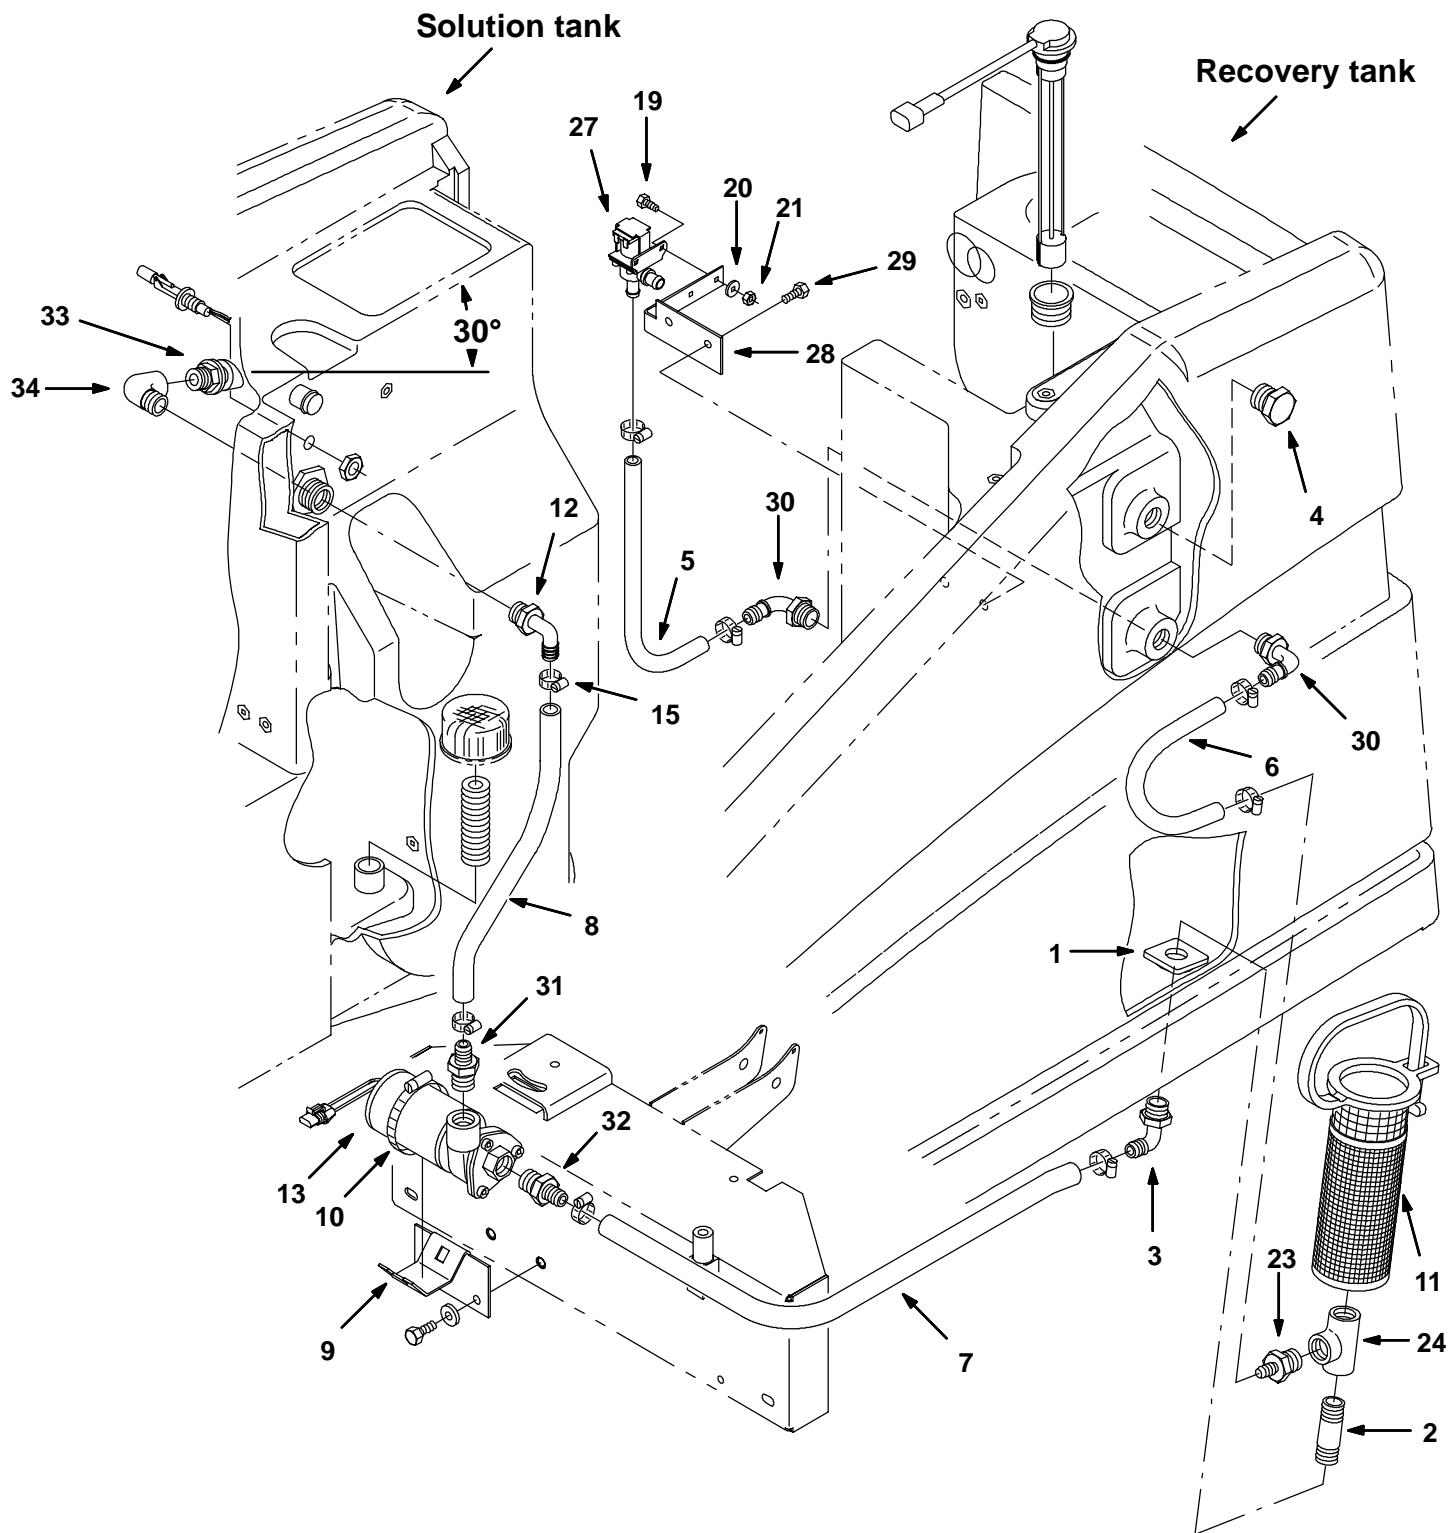

FIG. 7 - ES Pump/Airflow Valve Assembly (new location)
8. Install the airflow solenoid valve (27) onto the new mount bracket (28). Use the hex screws (19), washers (20), and nuts (21). Tighten to 7.6 - 9.9 Nm (5.6 - 7.3 in lb). Water suction end will point down and the air suction end will point to the left side of the machine. (Refer to FIG. 7)
9. Mount the airflow valve and bracket to the side of the recovery tank using the two hex screws (29). Tighten to 7.6 - 9.9 Nm (5.6 - 7.3 in lb). (Refer to FIG. 7)
(Refer to FIG. 7)
12. Install a 90° fitting (3) in the new bulkhead fitting (1) on the **outside** of the recovery tank.
Point the 90° fitting (4) toward the front of the machine. (Refer to FIG. 7)
13. Install the new tee (24) onto the new nipple (2). (Refer to FIG. 7)
14. Install the str. ftg. (23) into the horizontal hole on the new tee (24). (Refer to FIG. 7)
15. Install the new strainer (11) onto the new tee (24) | (Refer to FIG. 7)
16. Install a 90° fitting (30) in the bottom threaded hole in the side of the recovery tank.
19. Install hose (7) between the 90° fitting (3) in the new bulkhead fitting (1) on the **outside** of the recovery tank and the straight fitting on the ES pump (13) inlet.
20. Connect hose (8) from the kit to the upper straight fitting of the ES pump (13) outlet. Use one worm drive clamp (15). Route this hose up to the 90° fitting (12) on the side of the solution tank. Use one worm drive clamp (15). (Refer to FIG. 7)